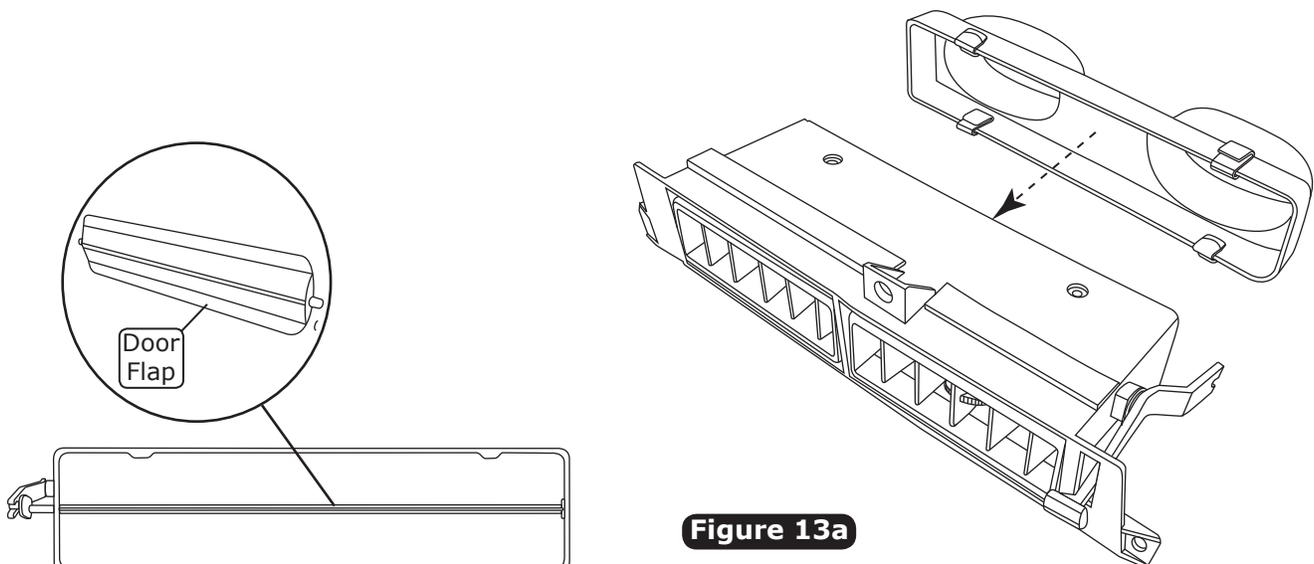

Figure 13a
1. Remove the center louver door flap (See Figure 13a, below).
2. Install (4) S-clips on the hose adapter as shown in Figure 13a, below.
3. Install the center louver hose adapter outside the OEM center louver assembly as shown in Figure 13a, below.